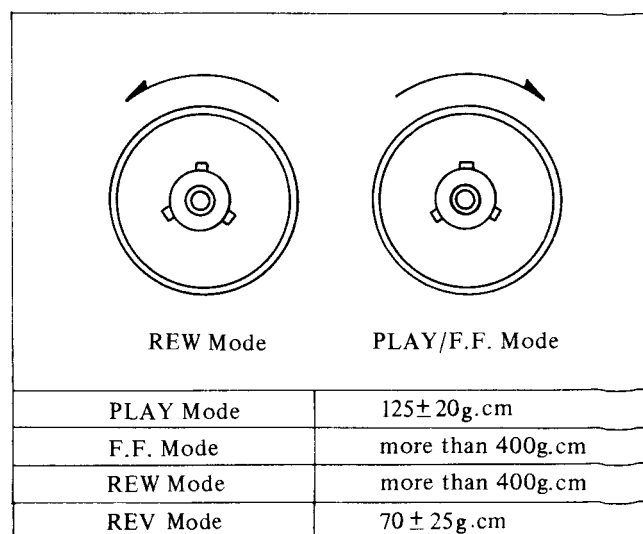

Fig. M15. Confirmation of Takeup Torque
3. Turn torque gauge in either direction indicated in the Fig. M15 and read the gauge when the brake begins slipping.